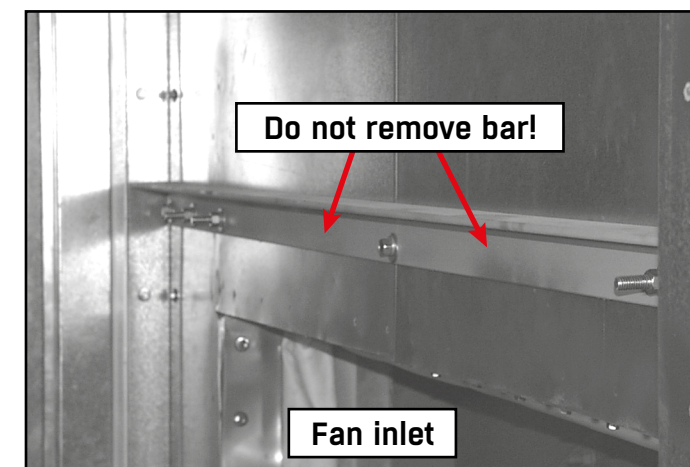

FIGURE 24. Instructions for removing through-wall bolts.
- A) The nut on the inlet side of the fan wall should be removed first (See **FIGURE 24**).
- C) **Do NOT** remove the support bar attached to the wall (See **FIGURE 24**).